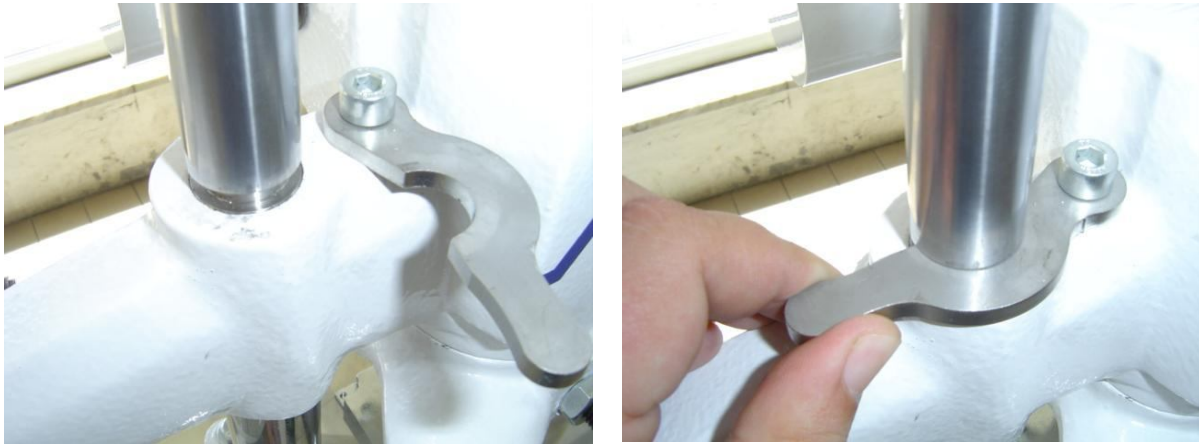

Figure 12
- Close the cutting blades' locks (figure 12).